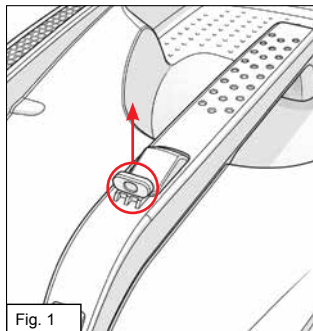
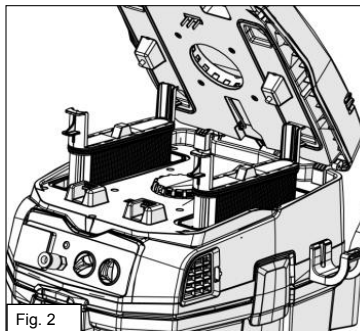

Fig. 1
Fig. 2
1. SUCTION HEAD with FILTER COMPARTMENT in Fig.1;
2. Pair of FILTERS (built into their housing) in Fig.1;
3. COLLECTION TANK with WHEELS and ACCESSORY holder in Fig. 2;
Before using the appliance, open the filter compartment by lifting the safety key and pressing the button on the handle (Fig. 1). Check that the filters are positioned correctly, as shown in Fig. 2. Press down lightly on both filters to ensure that they are in the correct position. Close the upper compartment and reinsert the opening lock key. The key prevents accidental opening if the opening button on the handle is pressed unintentionally.
• Position 0 = OFF: the machine is off (fig. 1);
• MAN position (fig. 2): after 1 second, the suction function starts in the soft start mode. During suction, if the filter is clogged, the filter cleaning function will automatically start without interrupting the work cycle. If the maximum content level is reached while vacuuming up liquids, the vacuum cleaner stops automatically. In this case, the buzzer and the indicator light on the control panel turn on.